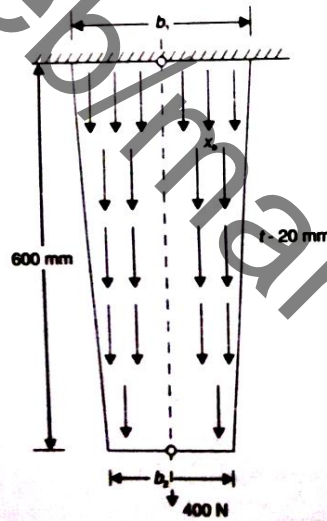

Figure 1
2. Determine the extension of the bar shown in figure 1. Due to self weight and a concentrated load of 400 N applied at its end. Given $b_1 = 150 \text{ mm}$ $b_2 = 75 \text{ mm}$ $t = 20 \text{ mm}$. $E = 2 \times 10^5$ $\rho = 0.8 \times 10^{-4} \text{ N/mm}^3$ [15]